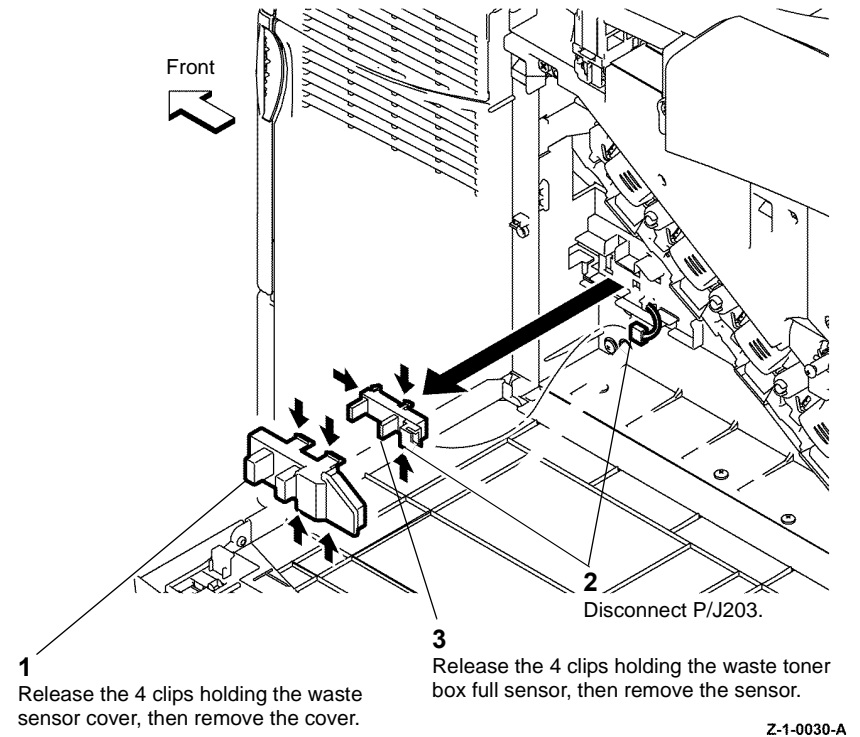

Figure 1 Remove the toner full sensor
2. Remove the waste toner box full sensor, Figure 1.